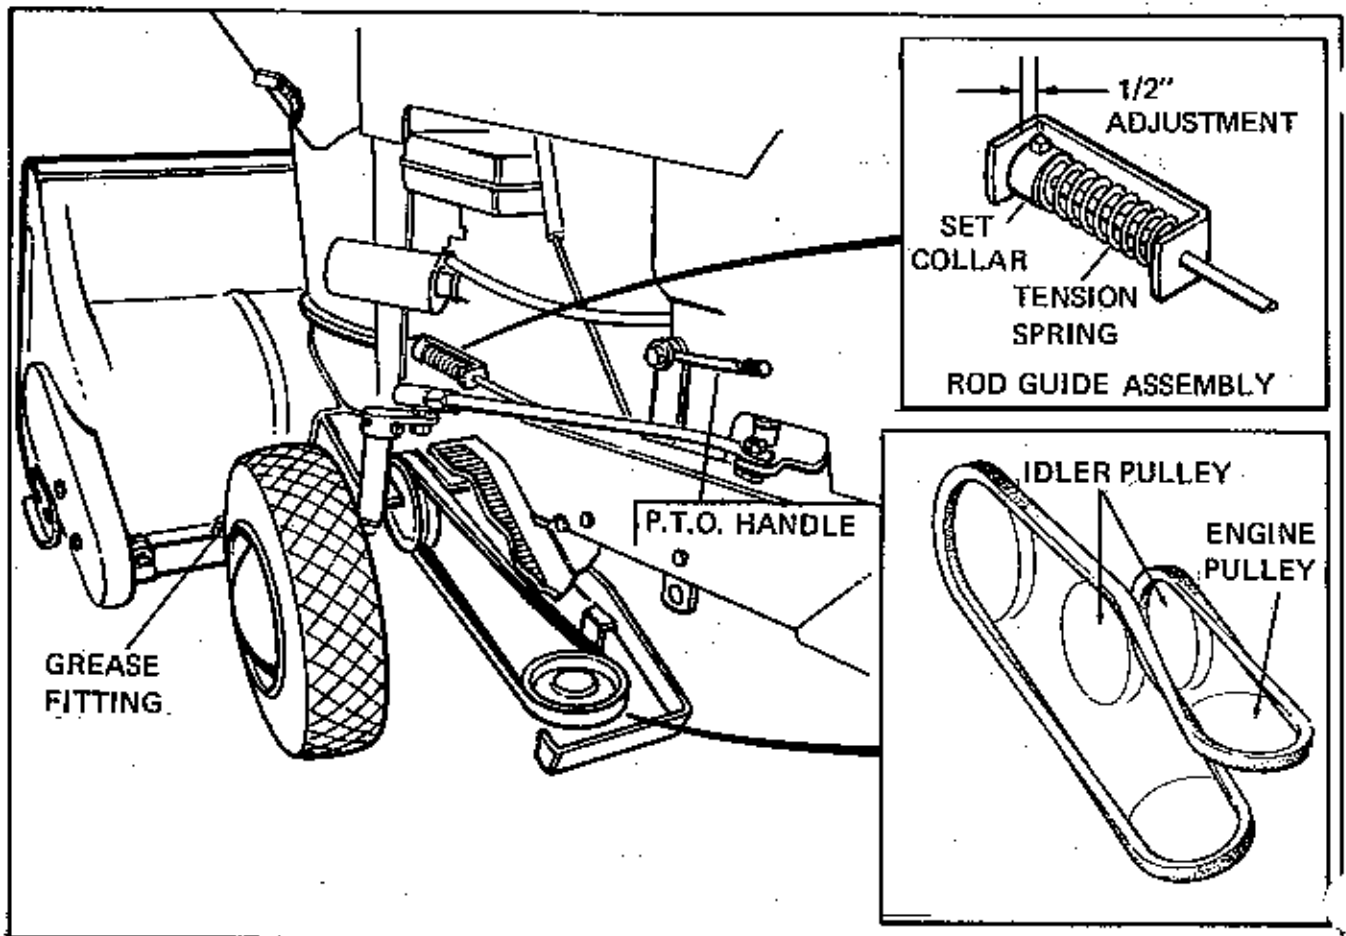

Figure 5.
There is one grease fitting on the Snow Thrower. See Figure 5. Lubricate with a general purpose automotive type grease every 15 hours of operation. Remove the chain guard and apply a coating of grease on chains every 15 hours of operation. Occasional application of light motor oil on all moving parts.
1. The lower pulley (1), Figure 5, on the